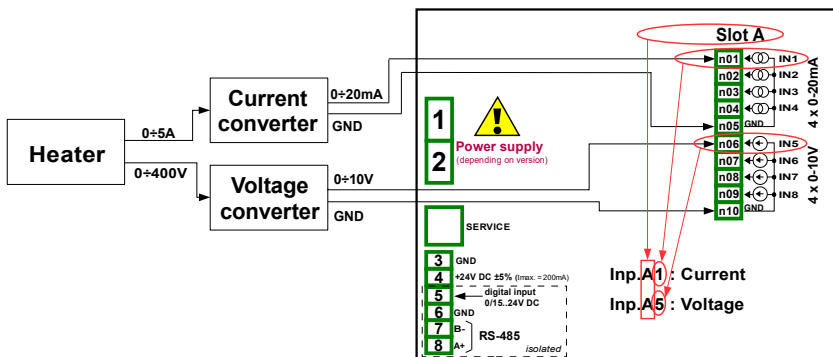

Fig. 7.63. Schematic diagram for the **UI4** module
First configure the device as described below, then connect the heater to converters and then to the device (in accordance with **Fig. 7.63**).
- **Source** parameter set as **Inp. A1: Current** (see the connection in **Fig. 7.63**),
- **Source** parameter set as **Inp. A5: Voltage** (see the connection in **Fig. 7.63**),